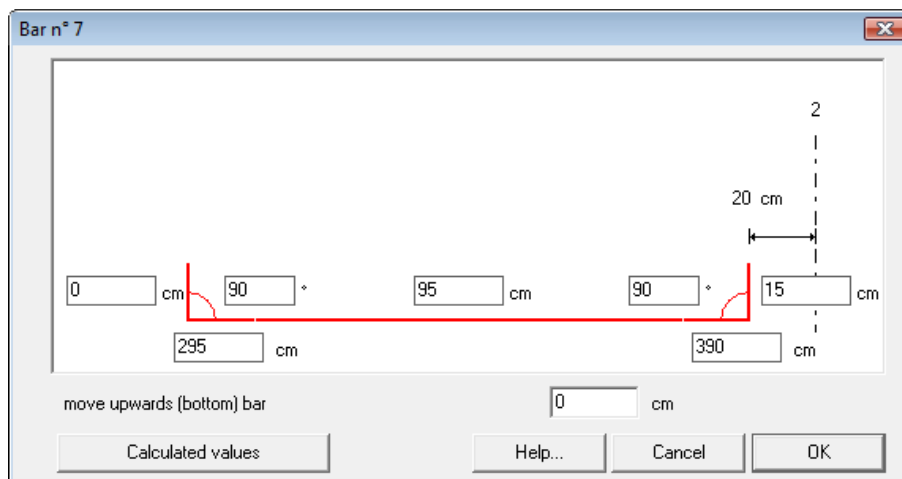

Figure 52: Adding hook lengths to bars
For bar (7) we enter the desired vertical hook of 15 cm (Figure 52) and confirm our choice by pressing the "OK"-button. After applying the same working method for bar (8), our reinforcement plan looks like this: